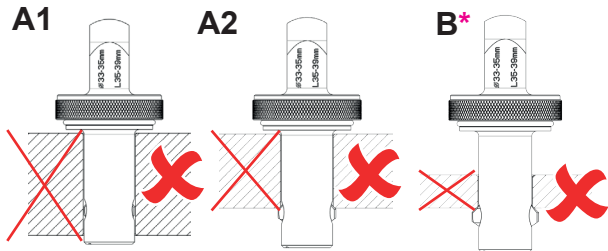

Fig. 8:
- The flange/component thickness is too large: Support elements cannot extend outside the flange/component (cf. Fig. 8 - A).
- The flange/component thickness is too small: The support forces are too low (cf. Fig. 8 - B). The WLL cannot be achieved.
- ▶ Only use the PIP-RAPIDO in the prescribed length range (see the marking on the shaft (L)).